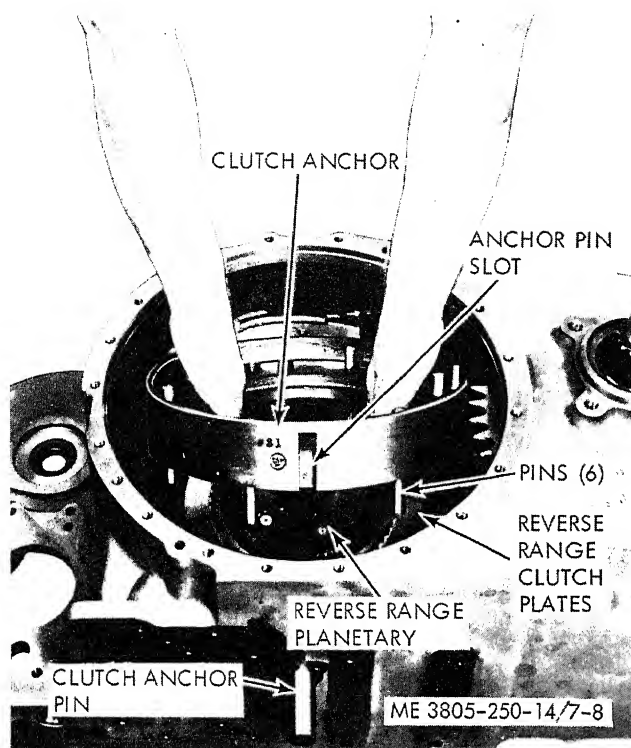

Figure 7-8. Installing clutch anchor.
(16) Align the slots of the external tanged reverse range clutch plates to receive six pins of the clutch anchor (97). Install clutch anchor and the clutch anchor pin (96), aligning the pin with the slot in the anchor assembly. Refer to figure 7-8. Temporarily install a  $\frac{3}{8}$ -16 NC x 1 inch bolt and